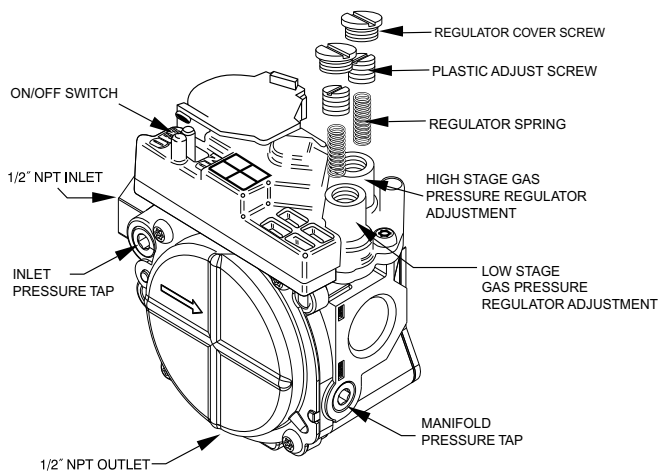

Fig. 16 – Two-Stage Gas Valve (208/230 VAC Models)
1. Remove regulator cover screw(s) over plastic adjustment screw(s) on gas valve (see Fig. 16).
2. Turn the high stage plastic adjustment screw clockwise to increase gas input and counterclockwise to decrease input (see Fig. 16). Manifold pressure must be between 3.2 and 3.8 IN. W.C. for high stage.
3. Replace high stage regulator cover screw on gas valve (see Fig. 16).
4. Turn the low stage plastic adjustment screw clockwise to increase gas input and counterclockwise to decrease input (see Fig. 16). Low stage manifold pressure must be between 1.4 and 2.0 IN. W.C.
5. Replace low stage regulator cover screw(s) on gas valve (see Fig. 16).